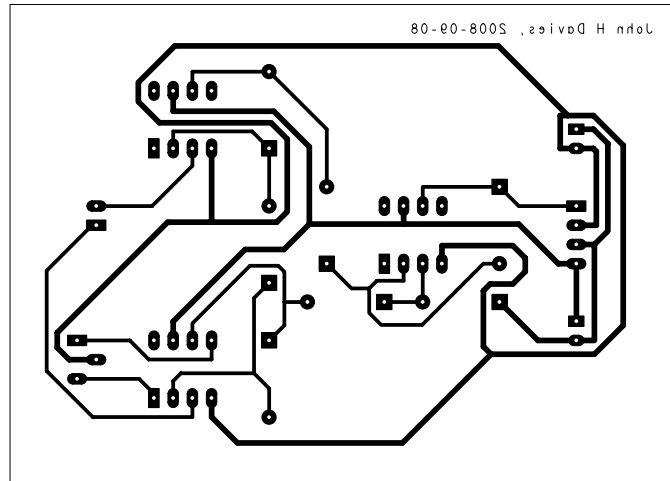

Figure 22. Printout at actual size for manufacturing a single-sided board (bottom layer) with holes in the pads to guide the drill.
9. Finally, choose File > Plot... as usual and you should get a beautiful picture with the board outline and etch as in figure 22.